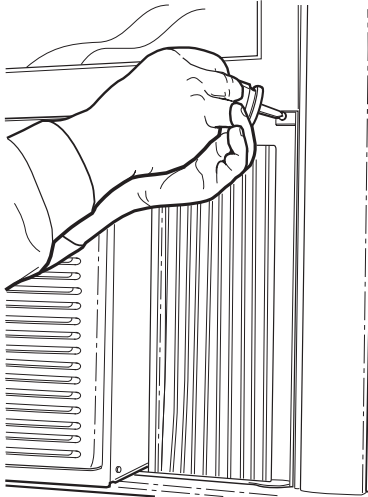

**FIGURE 7 — EXPANDING SIDE PANELS**
- Pull out the expanding side panels from the sides of the cabinet. The panels should expand to cover the entire width of the window. See Fig. 7. There are two holes provided in the ends of each wing panel which are used to secure the panels to the window. With the wing panels expanded, mark the drilling locations on the sides of the window frame and sill (through the holes in the panels). See Fig. 7.